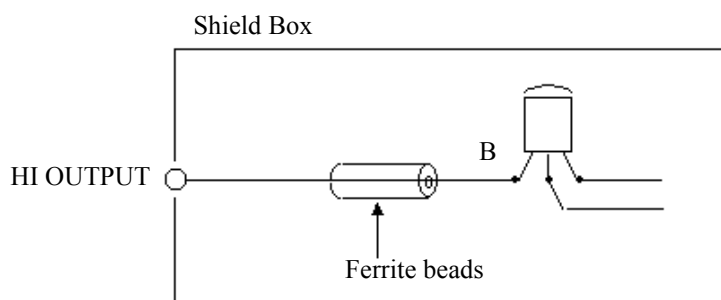

Figure 5-4 Preventing Device Oscillation
- Attach ferrite beads near the device as in Figure 5-4.